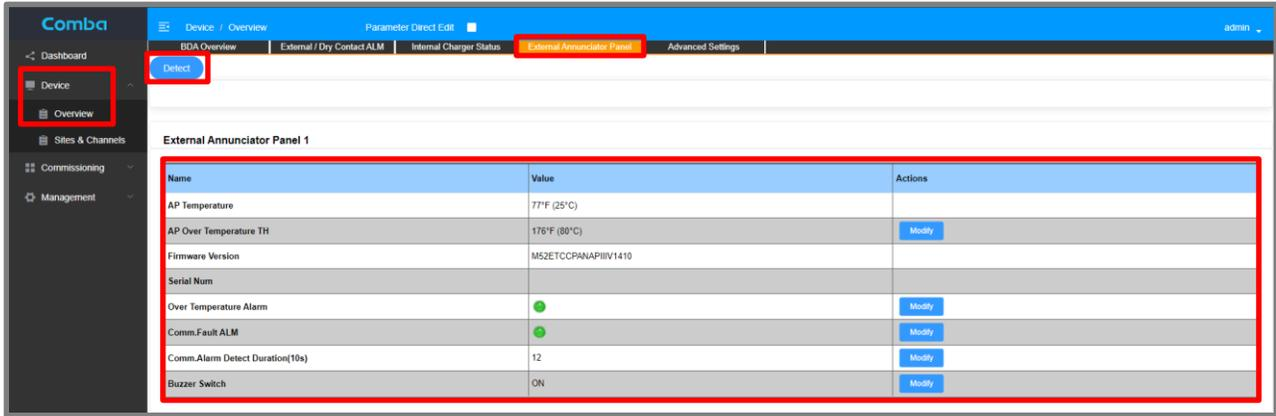
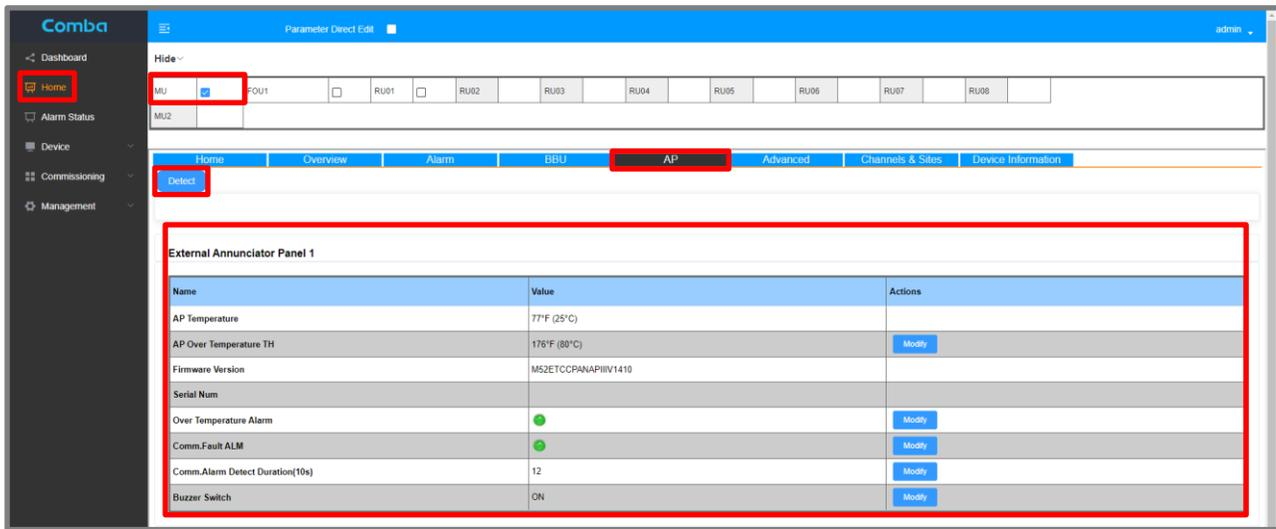

Figure 50: Commissioning V3 AP in BDA mode
Figure 51: Commissioning V3 AP in DAS Mode
- For BDA mode, see Figure 50 below, navigate to Device -> Overview -> External Annunciator Panel. For MU mode, see Figure 51 below, navigate to Home -> MU -> AP. For RU, Navigate through the MU to Home -> RU -> AP.